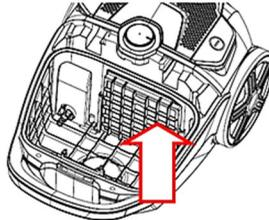

Fig 12
or replace inlet filter after every 3x Dust bag changes (Fig 12 and 13).
3. The Hepa exhaust filter and motor protection filter should be cleaned or exchanged after it is dirt. (Fig 12 - 14)